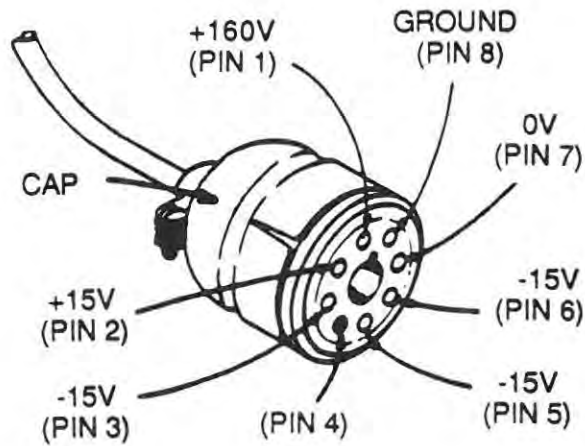

Figure 6-2. Voltages at Preamplifier Connector
- 2 Verify the voltages shown in Figure 6-2. If voltages do not exist, refer to para. 6-5.